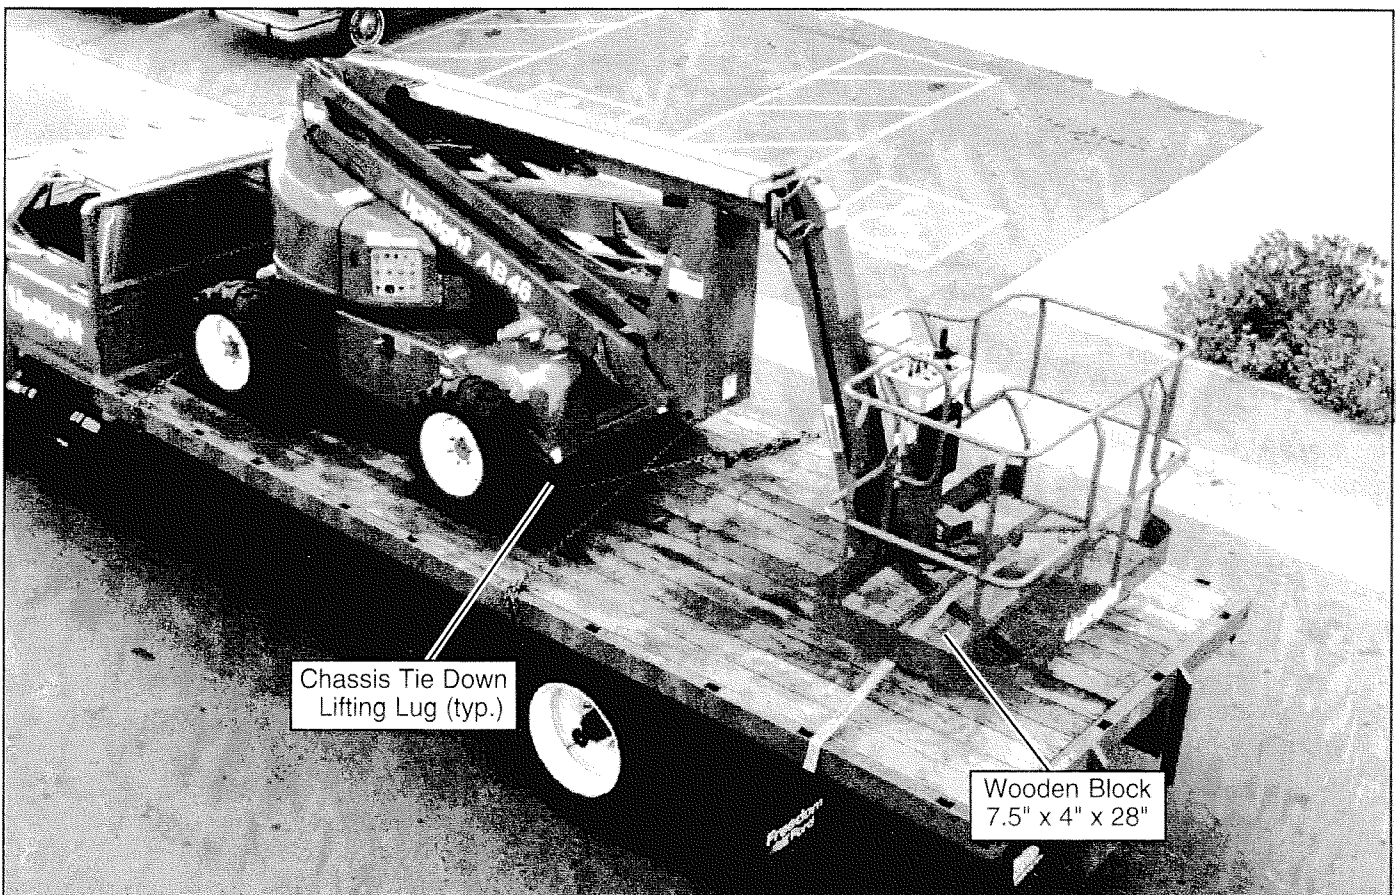

Figure 2-6: Securing the Machine for Transportation
5. Secure the machine to the transport vehicle using chains / straps of adequate load capacity (refer to specifications, page 1-2) attached to chassis tie down lugs (see Figure 2-6).
6. Place a wooden block 19 cm x 10 cm x 71 cm (7.5" x 4" x 28") under platform support braces as shown (see Figure 2-6).
7. Attach ratchet strap; under platform floor grating, over support braces (see Figure 2-6). Tighten securely, do not overtighten.